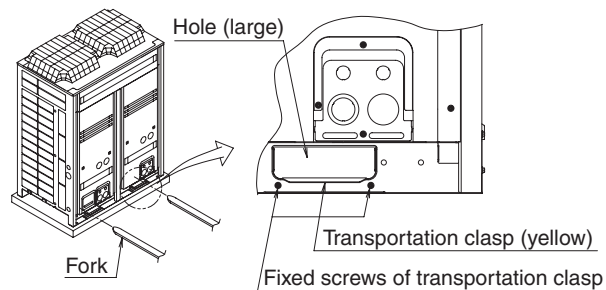

figure 5
3. If a forklift is to be used, pass the forklift arms through the large openings on the bottom of the unit. **(Refer to figure 5)**